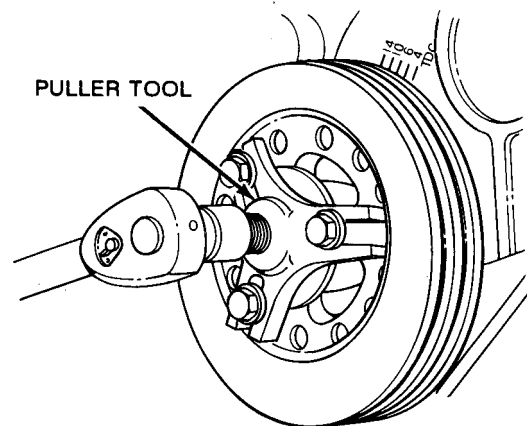

Figure 6-35. Removing Crankshaft Damper.
- (1) Install the engine on a work stand. Remove the spark plugs to allow easy rotation of the crankshaft.
- (2) Remove the oil level dipstick.
- (3) Remove the crankshaft damper attaching bolt and lockwasher. Remove the crankshaft damper (fig. 6-35).